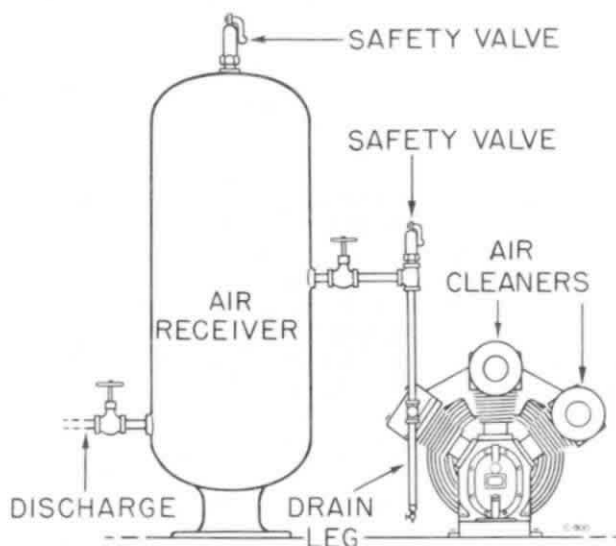

Figure 3-7. Typical Overhead Piping Arrangement for Bare or Subbase Mounted Units.
1. **Never install a shut off valve** (such as a gate or globe valve) between the compressor and the air receiver unless a safety valve is put in the piping between the valve and the compressor. See Figure 3-7.
2. **If possible, run the piping down** from the compressor to permit condensate to drain into the air receiver. If this is not possible, install a "drain leg" as shown in Figure 3-7. The "drain leg" is to be at least 10" (250 mm) long and is to project down from the compressor discharge. Put a drain valve at the end of this pipe and drain at least weekly, or as often as necessary.